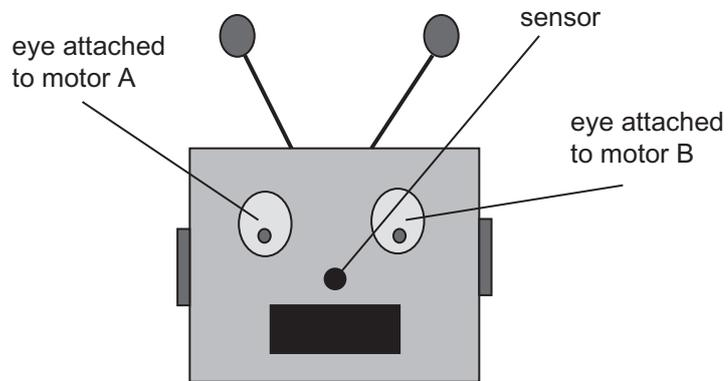

Fig. 10
- 9 (a) Fig. 10 shows the head of a robot. The eyes of the robot are to be controlled by two electric motors A and B.